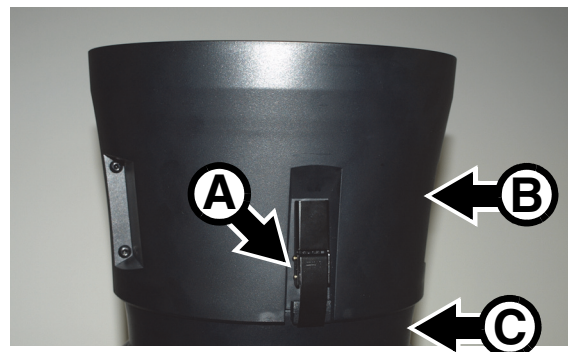

Figure 3
8. See Figure 3. Undo the two clips **A** from the Beam Kit assembly and separate the Beam lens unit **B** from the mounting collar **C**.